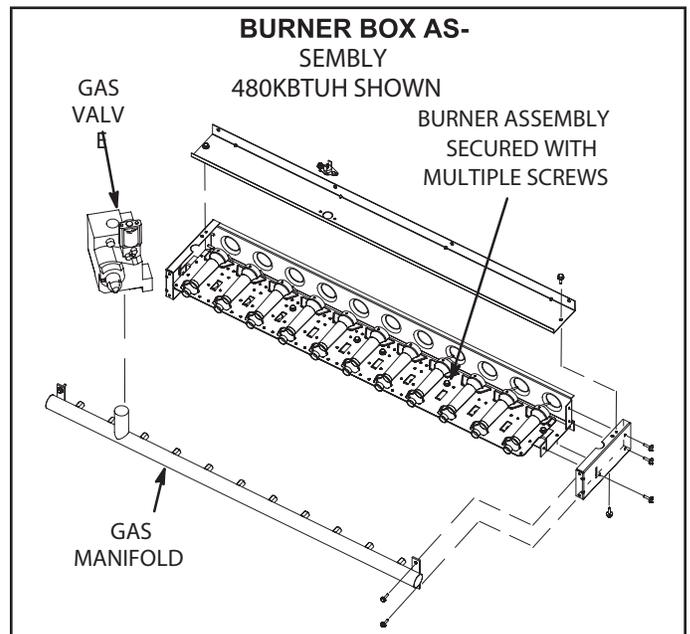

FIGURE 44
- 3 - Remove screws securing burner assembly to burner support and remove assembly. See FIGURE 44. Clean as necessary.